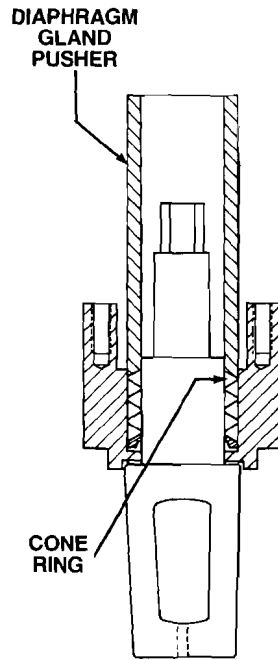

FIGURE VB-6
10. The packing is then placed into the stuffing box shown in Figure VB-6. Several packing orientations are shown in an earlier section. Under no circumstances shall sharp objects such as screw drivers, cold chisels or knives be used to force the packing into the stuffing box. The packing gland may be used to start the packing into the stuffing box.
11. Following insertion of the packing set, the diaphragm gland pusher is placed over the plug stem. Seat the packing by loading the gland pusher with an arbor press. The packing may be seated in sections but the gland pusher will only fit a cone ring. It must not be used to seat against a cup. See Figure VB-6. The packing gland is now placed over the plug stem and seated with the arbor press.